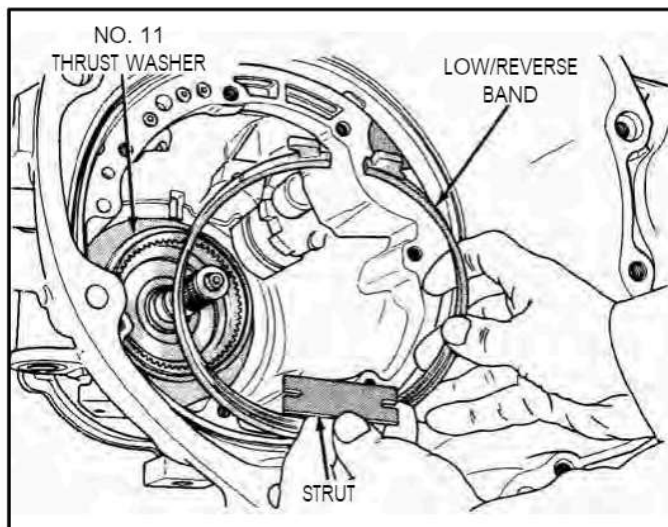

Figure 221
2. Install the low/reverse band and band strut, as shown in Figure 221. *(See Update Page 99).*